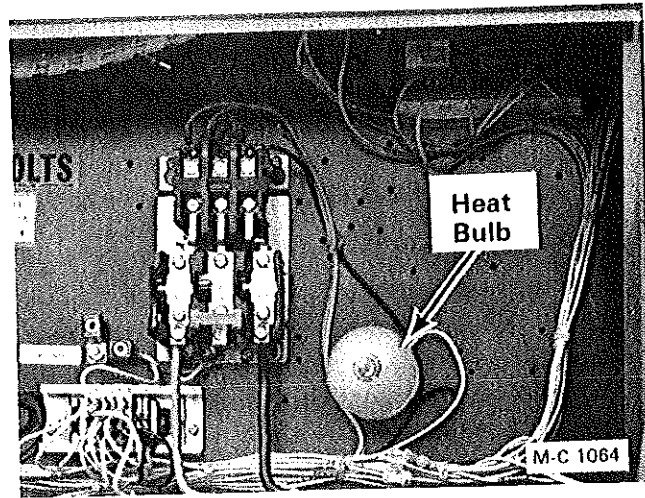

Figure 24
1. The heat bulb in the control cabinet, Figure 24, will always be on when the electric power supply to the dryer is on. It does not have an ON-OFF switch.